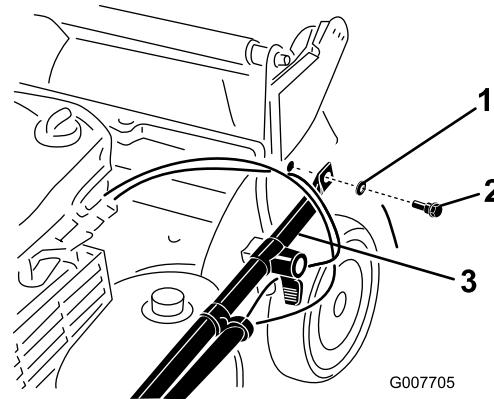

Figure 4
Important: Route the cables to the *outside* of the handle (Figure 4).
2. Attach the handle ends to the mower housing with 2 washers and 2 handle bolts (Figure 4), **but do not tighten the handle bolts.**